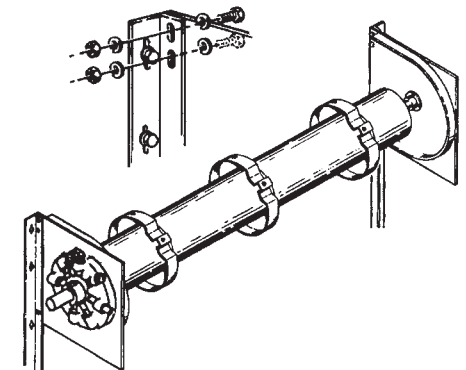

Fig 14
- Bolt heads must be on the inside of the headplate brackets. See Figure 14.